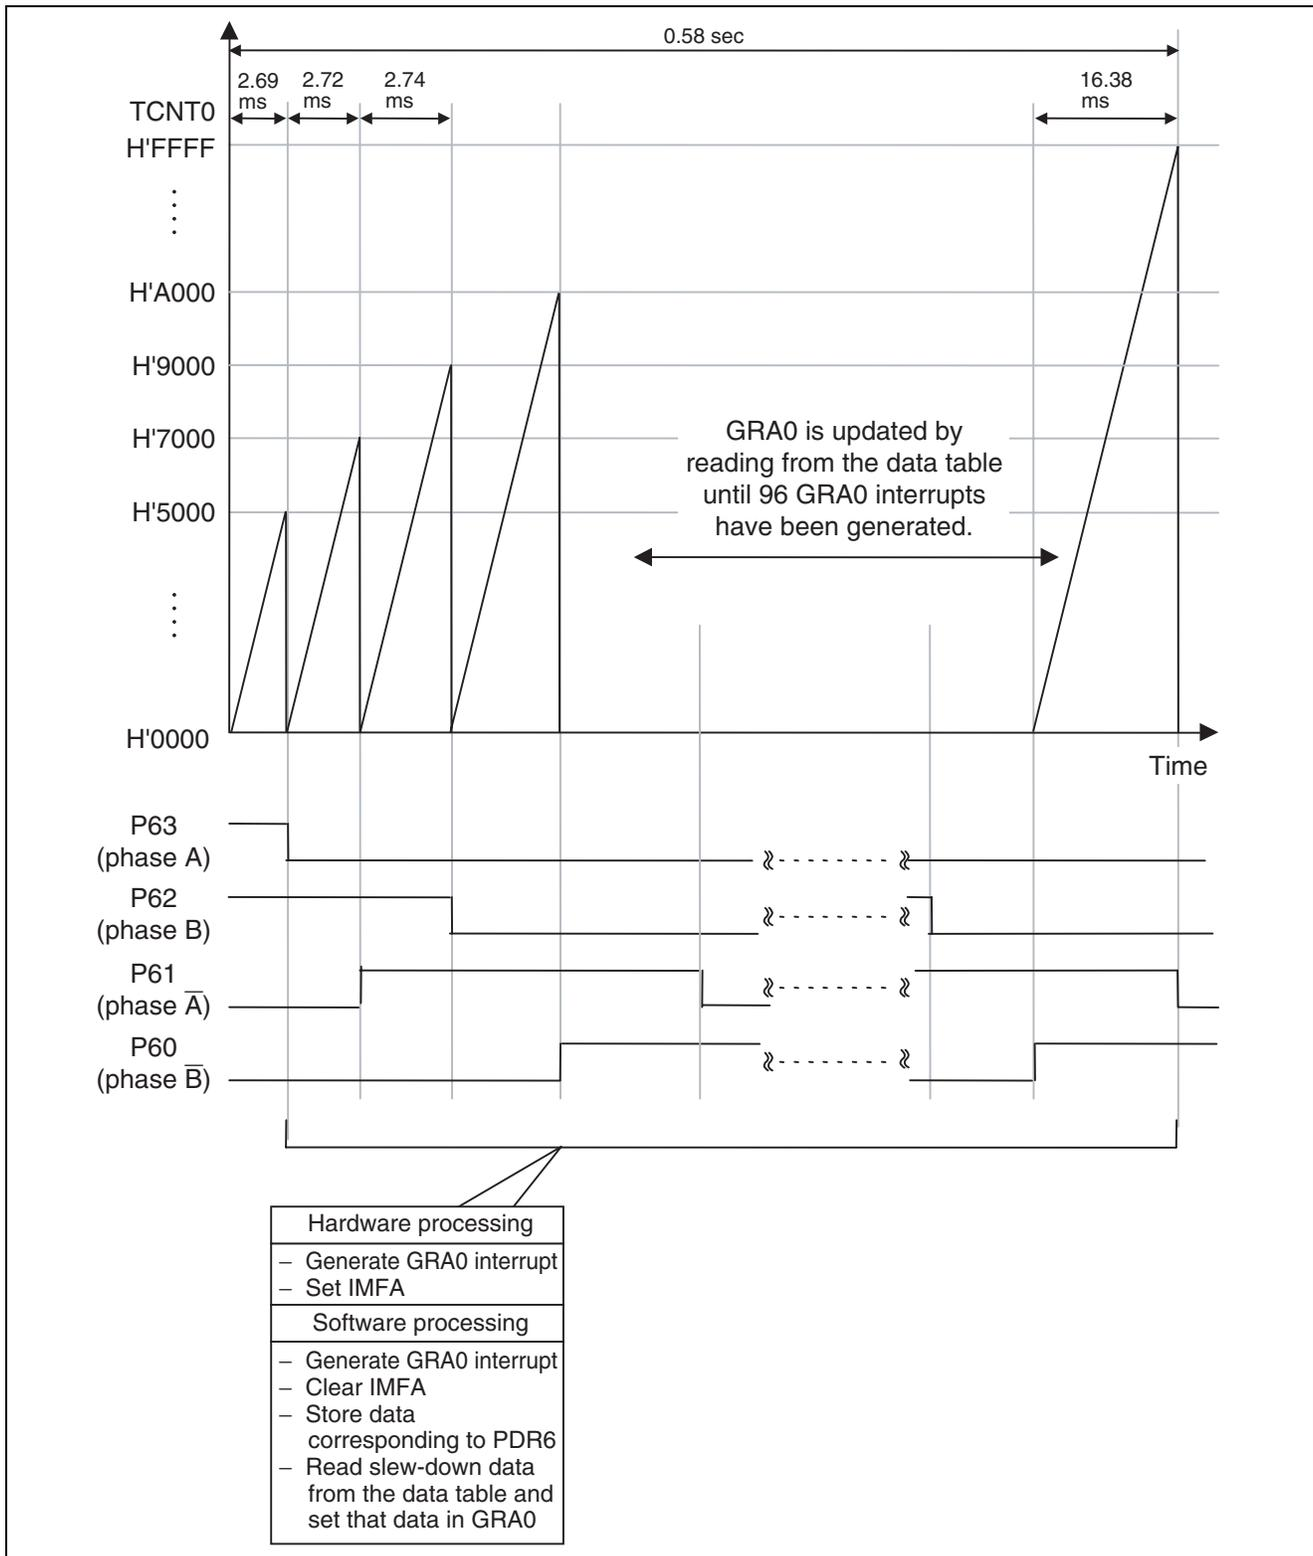

Figure 10 Principle of Slew-down Control during Forward Rotation
3.7 Figure 10 illustrates the principle of slew-down control during forward rotation.